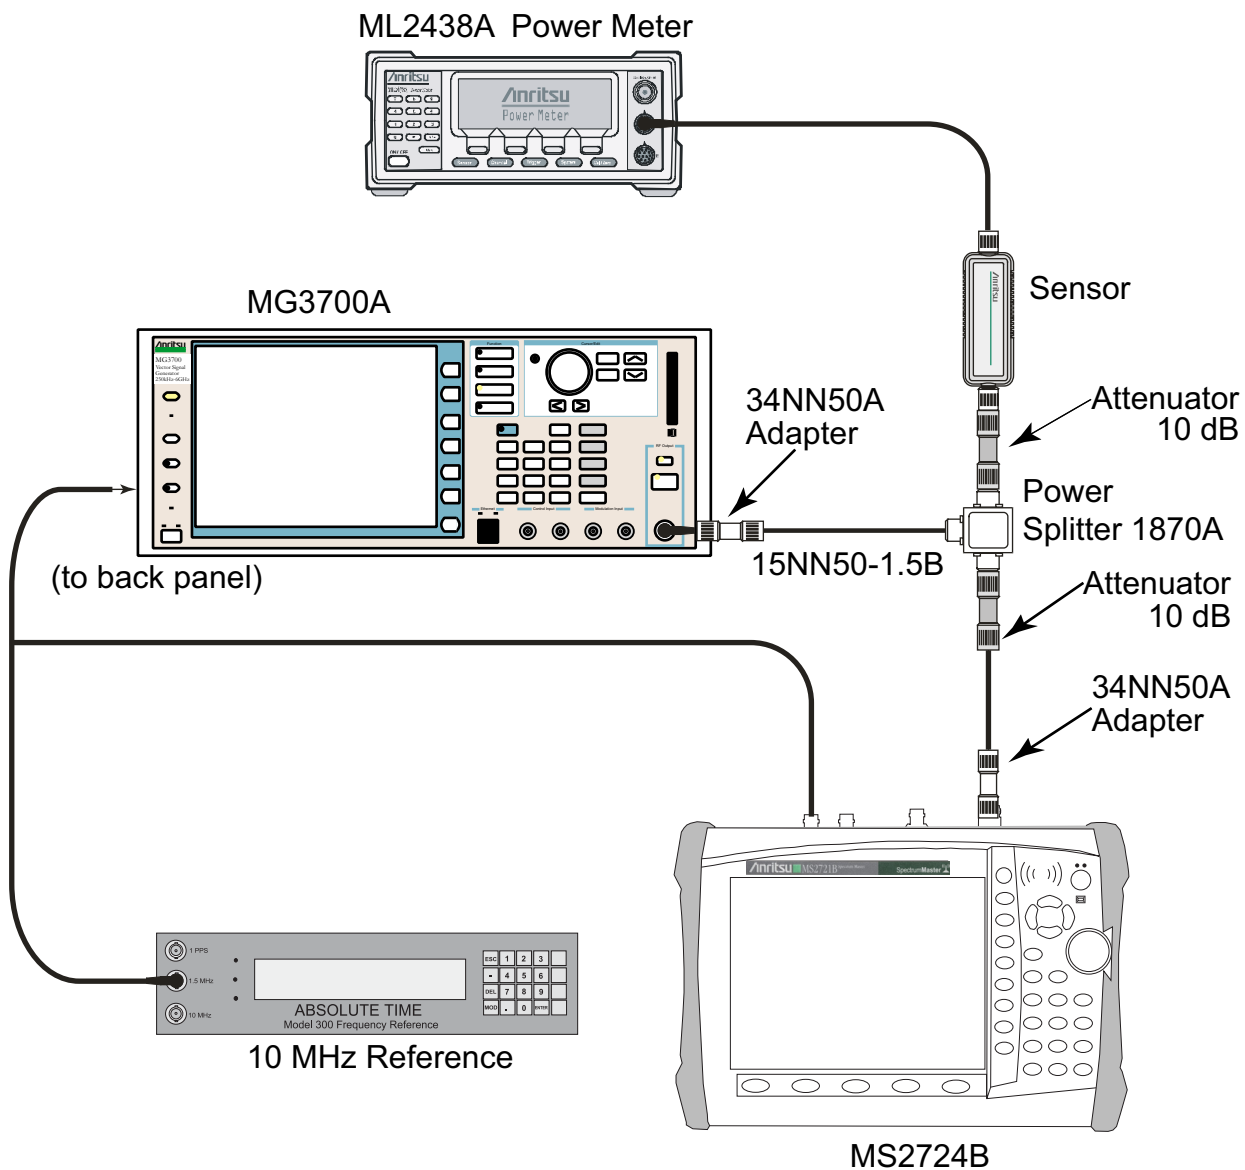

Figure 2-23. Fixed WiMAX Signal Analyzer – Test Setup
3. Connect the Power Sensor, 1870A splitter, and 10 dB attenuators (quantity 2) as shown in Figure 2-23, “Fixed WiMAX Signal Analyzer – Test Setup” on page 2-58
3. Connect the Power Sensor, 1870A splitter, and 10 dB attenuators as shown in Figure 2-23, “Fixed WiMAX Signal Analyzer – Test Setup” on page 2-58.